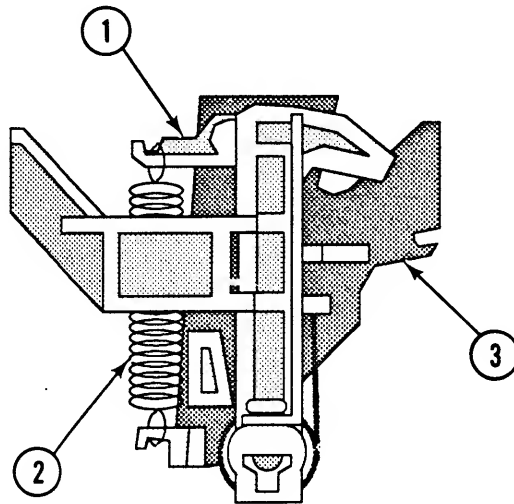

FIGURE 59
2. Remove the right lifter (Figure 59, #1) and tension spring (Figure 59, #2) from the right hook guide (Figure 59, #3).